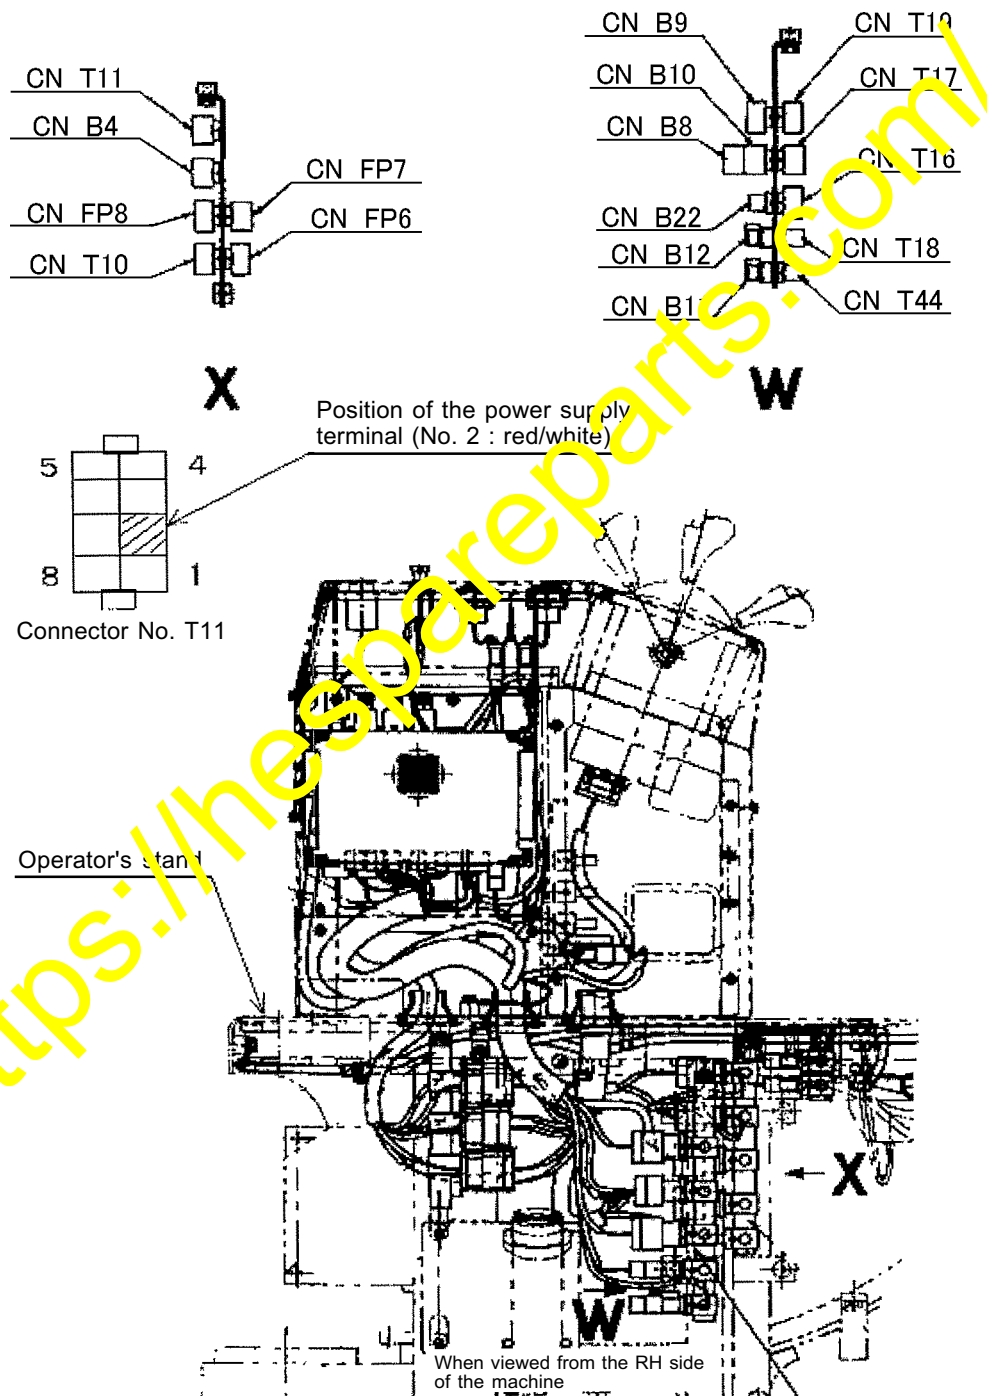

Fig. 7
- 7) Connecting the power supply to the neutral relay (Refer to Fig. 7.)